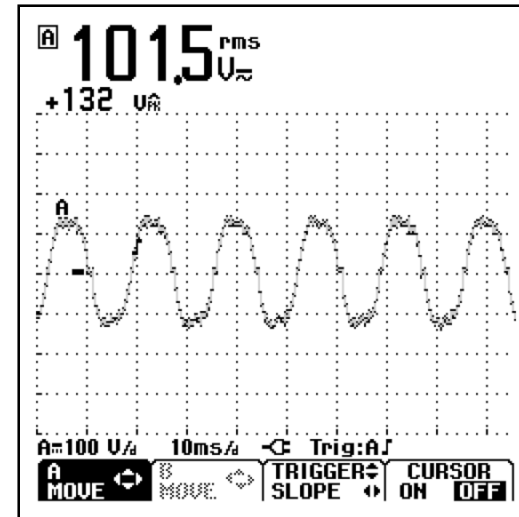

Figure 3. Oscilloscope waveform displaying flat top input line voltage
- The waveform reveals sine wave peaks that are rounded, almost becoming a “flat top” (figure 3)